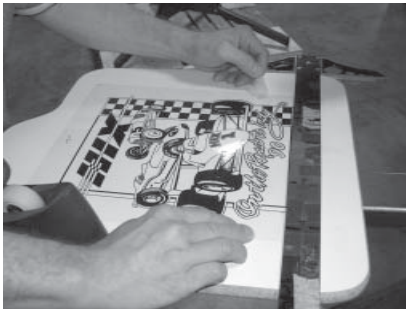

Fig. 16
- Center, level, and tape your art/ film positive (normally the black or trap) on **one** shirt board using a T-Square and a ruler. Roughly center or position to desired location. Make sure all printable images lie within the boundary of the shirtboard. (Fig. 16) Then register your screens to the film positive (see page 9). (**film positive**- Any artwork on a clear film that can be used to expose a screen.